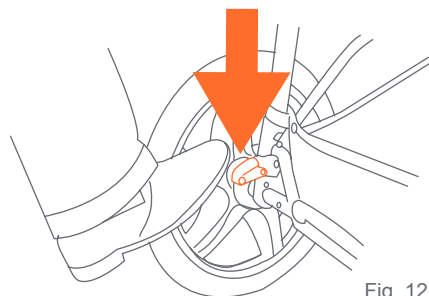

Fig. 12
- 12)** • To engage brakes, apply downward pressure to the brake levers located on the rear axle. The stroller may require forward or rearward movement in order to engage the brake (Fig. 12).